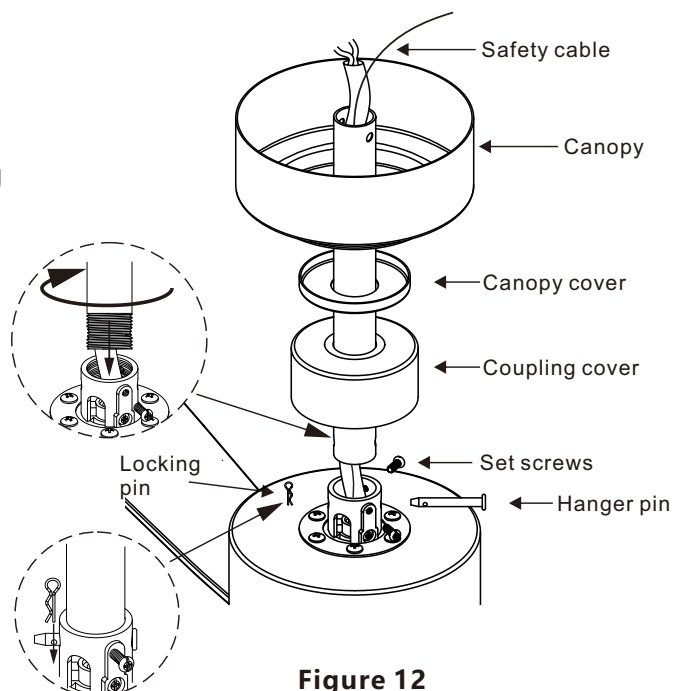

Figure 12
Step 5. Route the wires and safety cable coupler exiting from the top of the fan motor through the coupling cover, canopy cover and canopy, then through the ball/downrod. (Fig. 12)
Step 6. Thread downrod into the motor coupling until the holes on the downrod and coupling are lined up (Fig.12) Carefully insert the hanger pin through the holes in the collar and downrod. Be careful not to jam the pin against the wiring inside the downrod. Insert the locking pin through the hole near the end of the hanger pin until it snaps into its locked position, as shown in the circle inset of (Fig.12)
Step 7. Tighten two set screws against the downrod on the coupling firmly. (Fig. 12)